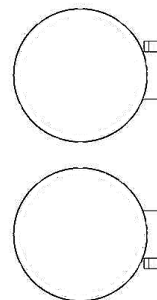

FIGURE 3
9. Unscrew the remaining hose clamps and feed the tail end of the clamp through the clips on the inside of the heatshields, the larger clamps go to the rear of the heatshields where they will rest on the muffler bodies, smaller ones to the front for the headpipes. The screw end of the hose clamp should be accessible for tightening but not visible when heatshields are mounted to the pipes, see Figure 3.